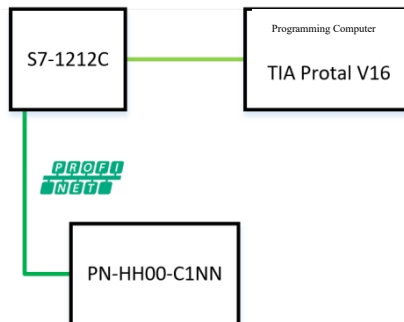

Fig. 5-2-1 Communication Link Diagram
1. See Fig. 5-2-1 for the communication link diagram.